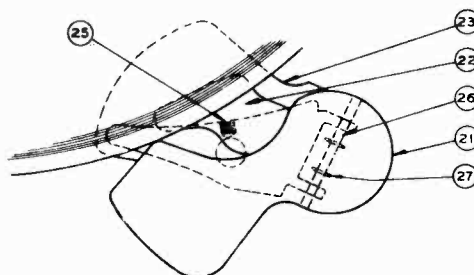
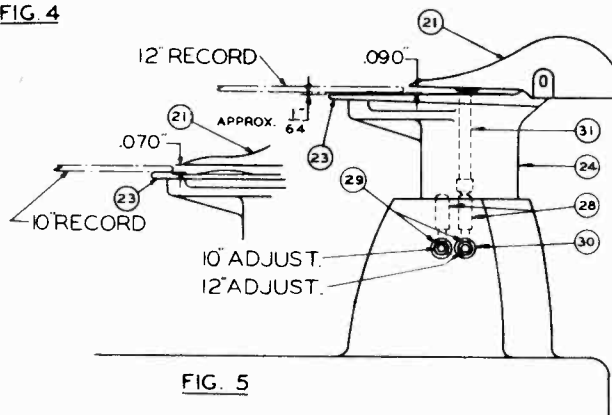

FIG. 4
FIG. 5
To adjust the distance between the selector plate (21) and the shelf plate (23) for 10" records, first select a 10" record that is approximately .070" thick. Then position it on changer and start a change cycle to revolve changer plates. Stop the turntable by hand just as the selector plate (21) is about to touch the record, and shut off the motor (See Fig. 4). Then slowly revolve the turntable by hand, allowing selector plate to contact edge of record so that it just slides over record, touching the surface lightly. Check all three selector plates, and if any adjustment is necessary, it can be done by inserting a #10 Allen wrench in the adjusting set screws (29). Turn set screw slightly clockwise to raise the selector plate and counter-clockwise to lower it. The set screws for adjusting the 10" record setting, and the 12" record setting are shown above in Fig. 5. To adjust for 12" records, select a 12" record that is approximately .090" thick, then follow same procedure as for adjusting 10" records. After correct adjustments have been made, tighten the locking collars (30) securely.